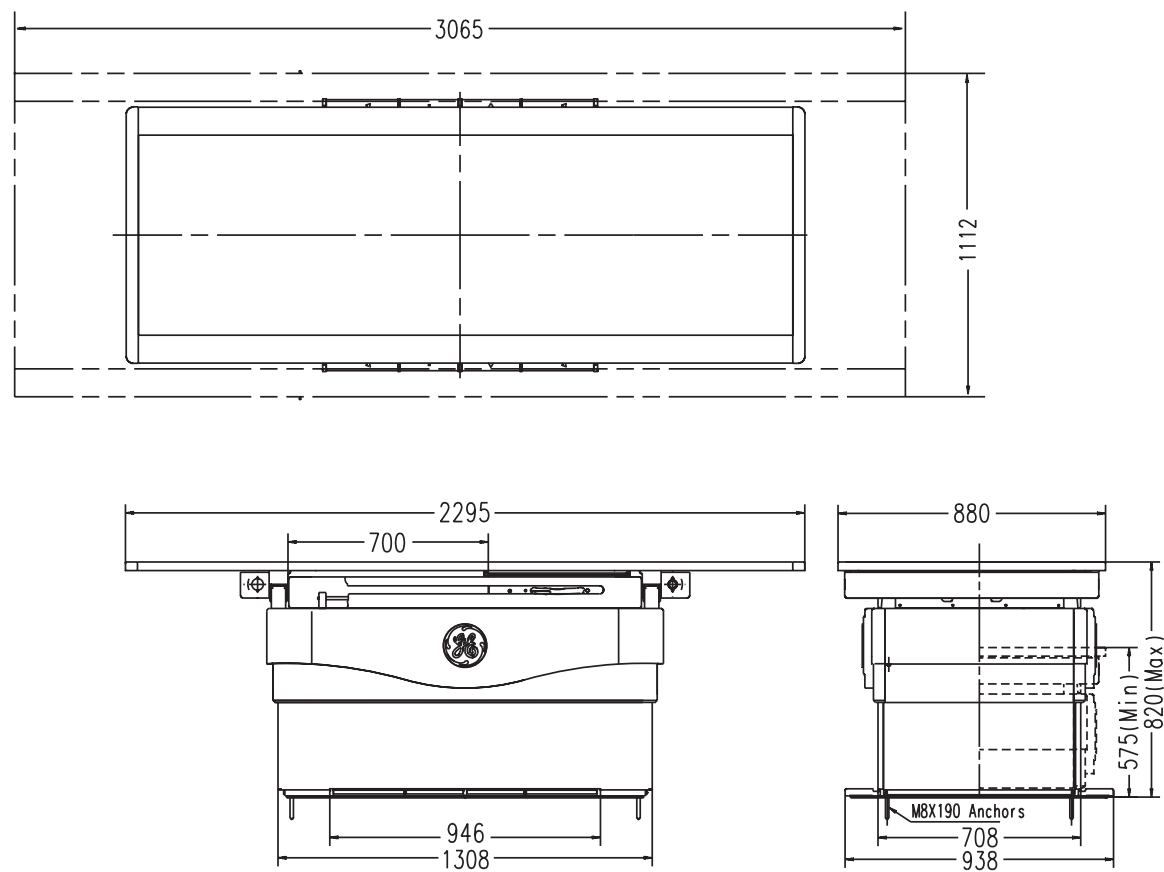
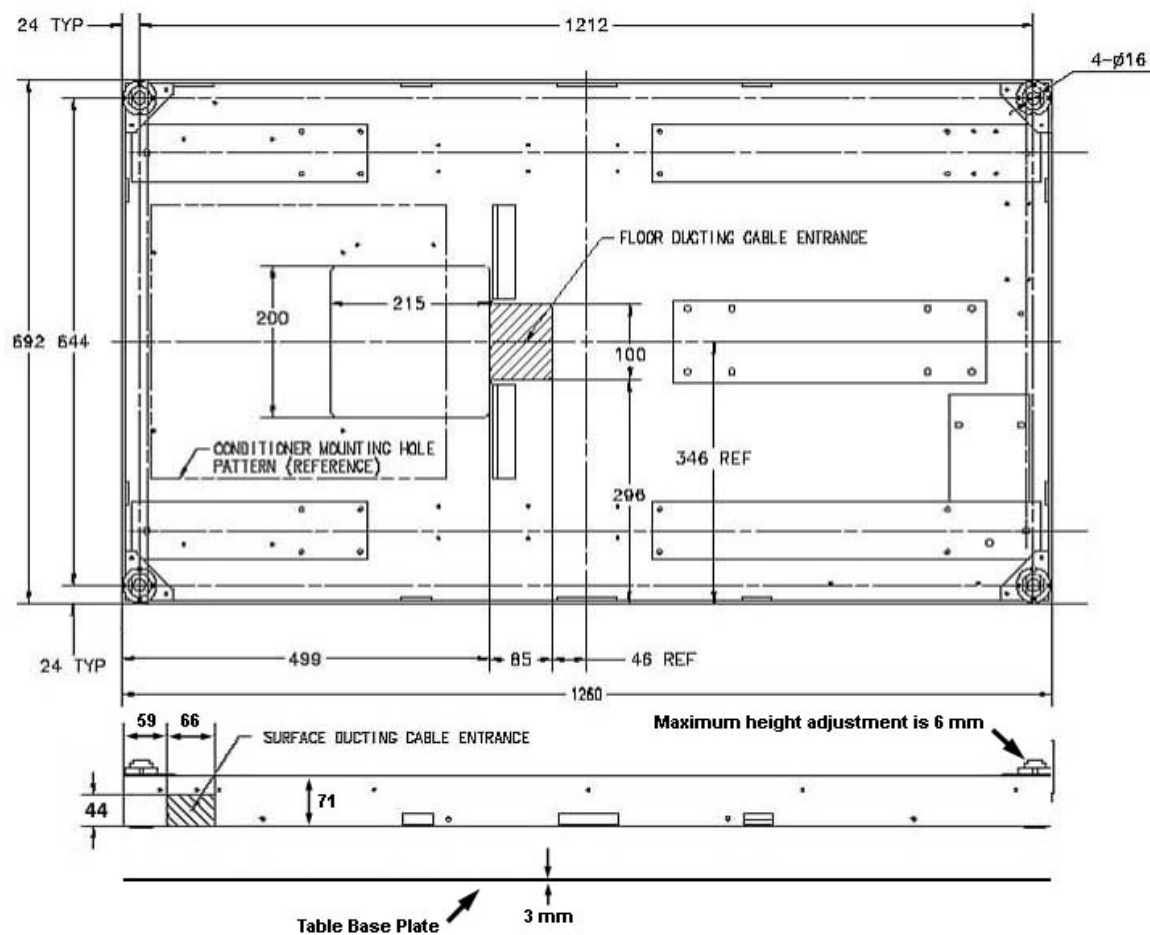

Figure 5-5 Revolution XR/d Table Views
Figure 5-6 Revolution XR/d Table Bottom Plate
- Table (TBL) - Figure 5-5 and Figure 5-6.